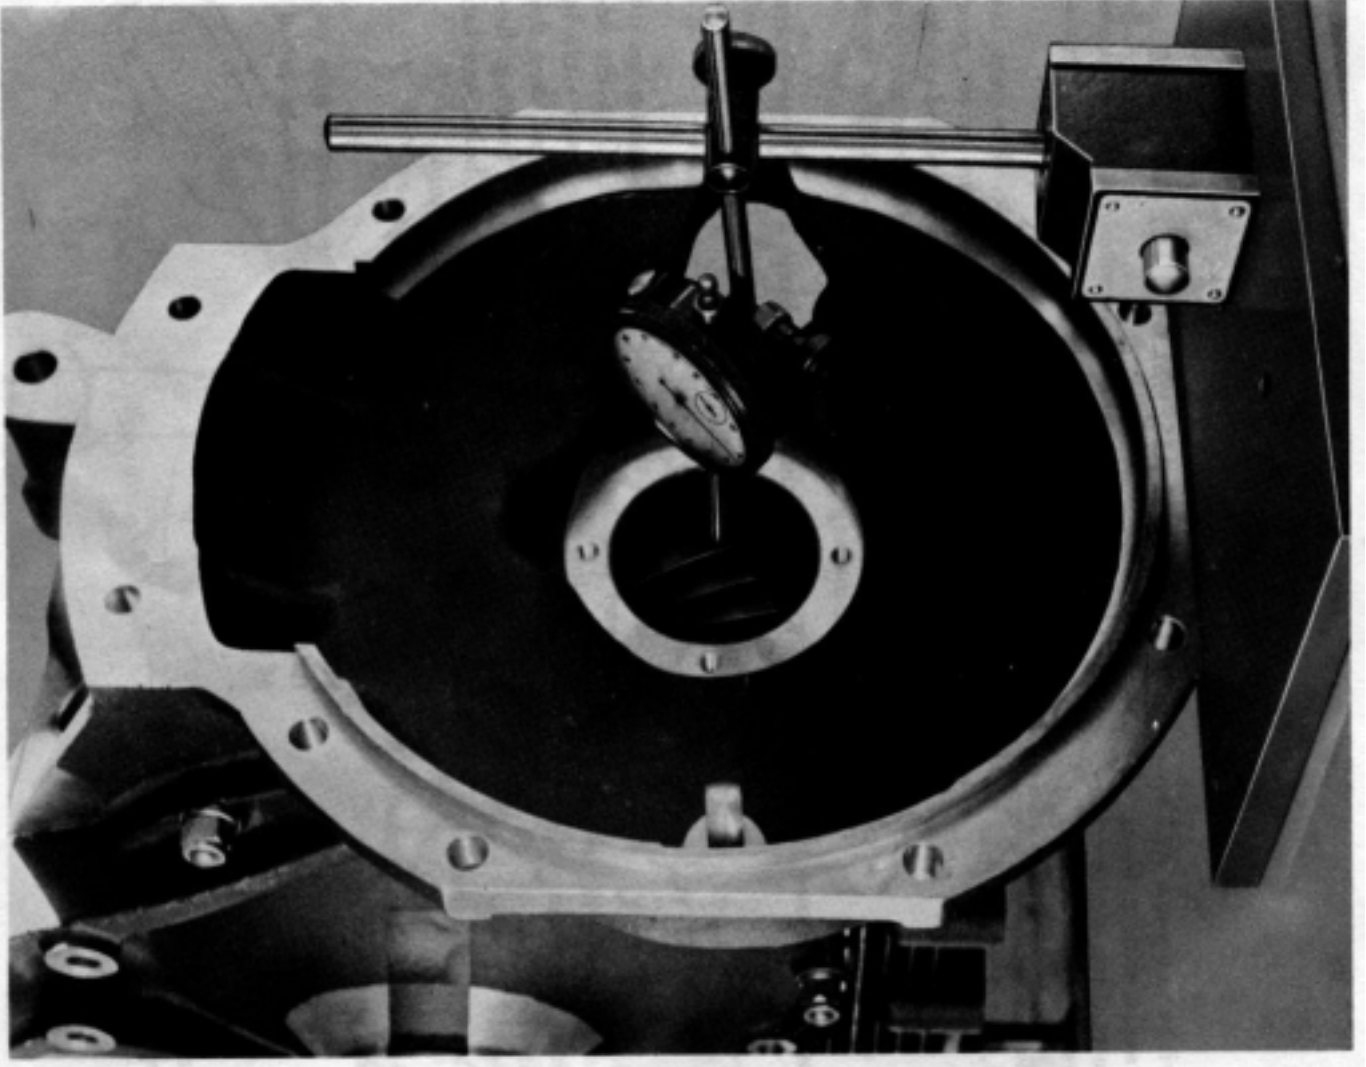

Fig. 4 How the dial recording micrometer is used to measure backlash
For this operation you will require a post-mounted dial indicator with an extended probe (Fig. 4).
2. Insert probe of, dial indicator through spigot housing until it touches one of the teeth of the crown wheel (Fig. 4). Note the reading on the dial indicator. Turn pinion by hand to rotate crown wheel, and take at least 12 readings. (14 readings are standard practice in our own workshops). Minimum reading should be **.004"**.